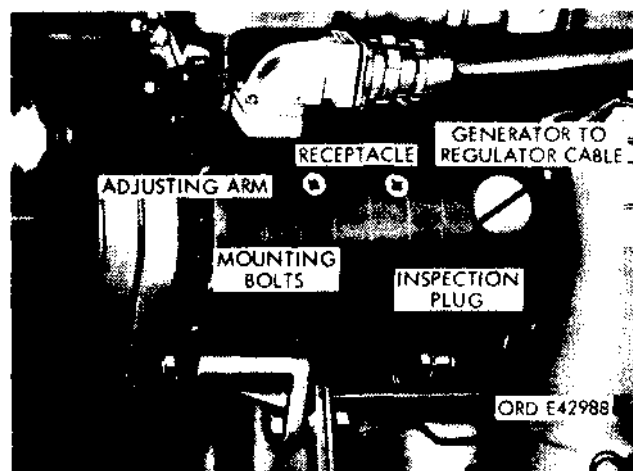

Figure 54.33. Generator.
(3) Disconnect cables at generator by removing the connector nut on the generator-to-regulator harness at the generator output elbow. Slide the nut back on the harness and carefully remove the cables from the generator (figure 54.33).